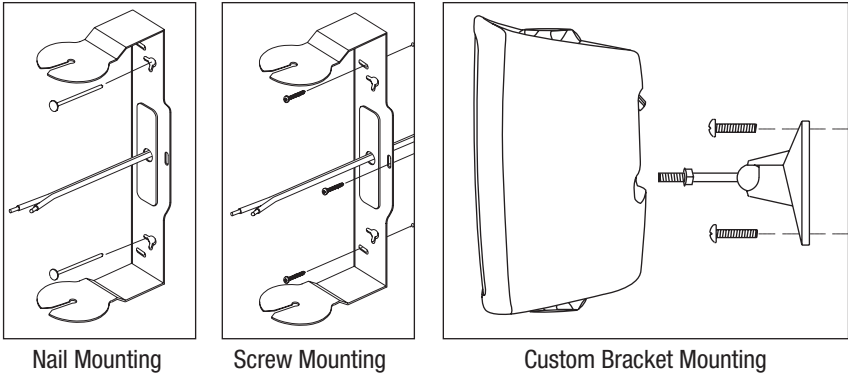

Figure 8. The OS loudspeakers can be mounted three ways.
1. *If the loudspeaker is never going to be exposed to sudden accidental impacts, wind, waves, or earthquakes, you can simply hang it on a nail using the nail hole(s) on the bracket (see **Figure 8** on the next page).*
2. *The safest and most secure way to mount the loudspeaker is by screwing it to the mounting surface using your own hardware (suitable for the surface you are mounting to) and the bracket supplied with the loudspeaker (see **Figure 8**).*
3. *There is a threaded brass insert (1/4" – 20) on the back of the OS loudspeakers for attaching a custom bracket (see **Figure 8**). This allows you to position the loudspeaker at unusual angles or varying distances from the mounting surface.*